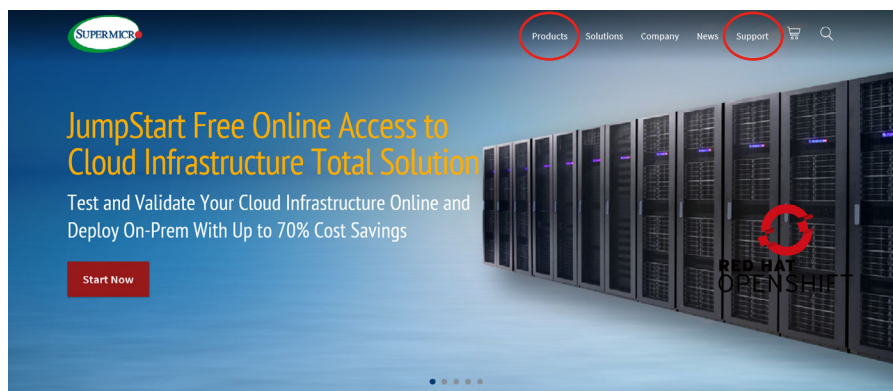

Figure 7-1. Supermicro Website
2. Locate the onboard battery (see Figure 7-1).